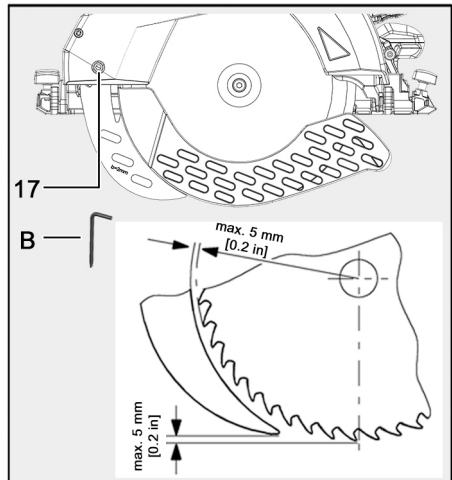

Fig. 9: Distance riving knife to saw blade
2. Using the Allen key (B) provided, turn the screw (17) **counterclockwise** to loosen it.
- Do not exceed the maximum distance to the saw blade (see Fig. 9).
4. Using the Allen key (B), turn the flange screw (17) **clockwise** to tighten it.